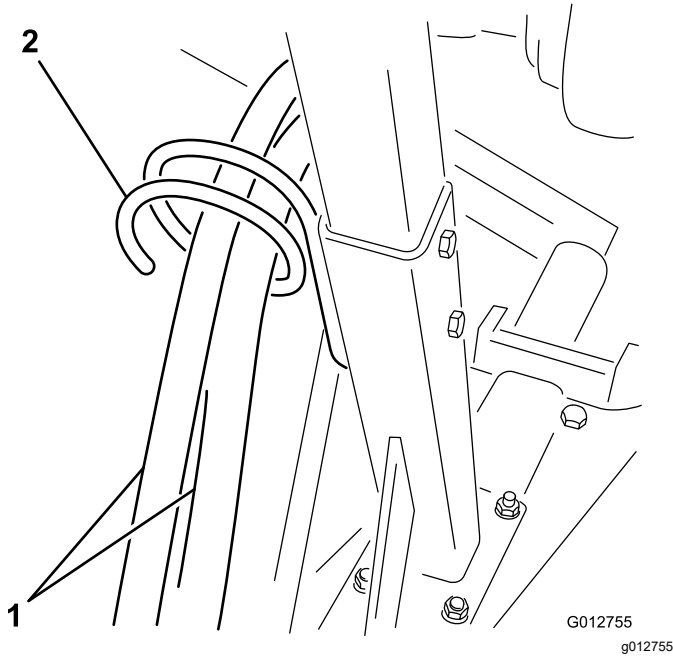

Figure 6
- Route the supply and return hoses through the hose hanger (Figure 6).